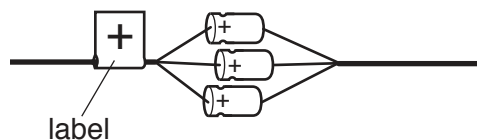

Fig. 1.1
- The 22 μF capacitors should be separated into four groups containing 4, 3, 2 and 1. The capacitors in each group should be soldered together in parallel (anodes connected together). The anode end of each group should be labelled +, as shown in Fig. 1.1. It should be possible to connect each group, in turn, into a component holder.